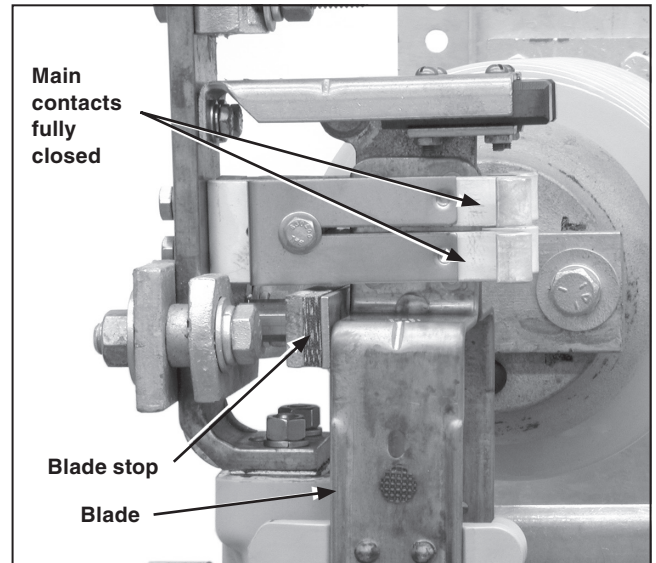

Figure 27. Checking that the main contacts are fully closed.
- (a) With the operating handle as far as it will go in the closing direction, all main contacts of the interrupter switch are fully closed with the blades against their blade stops. See Figure 27.